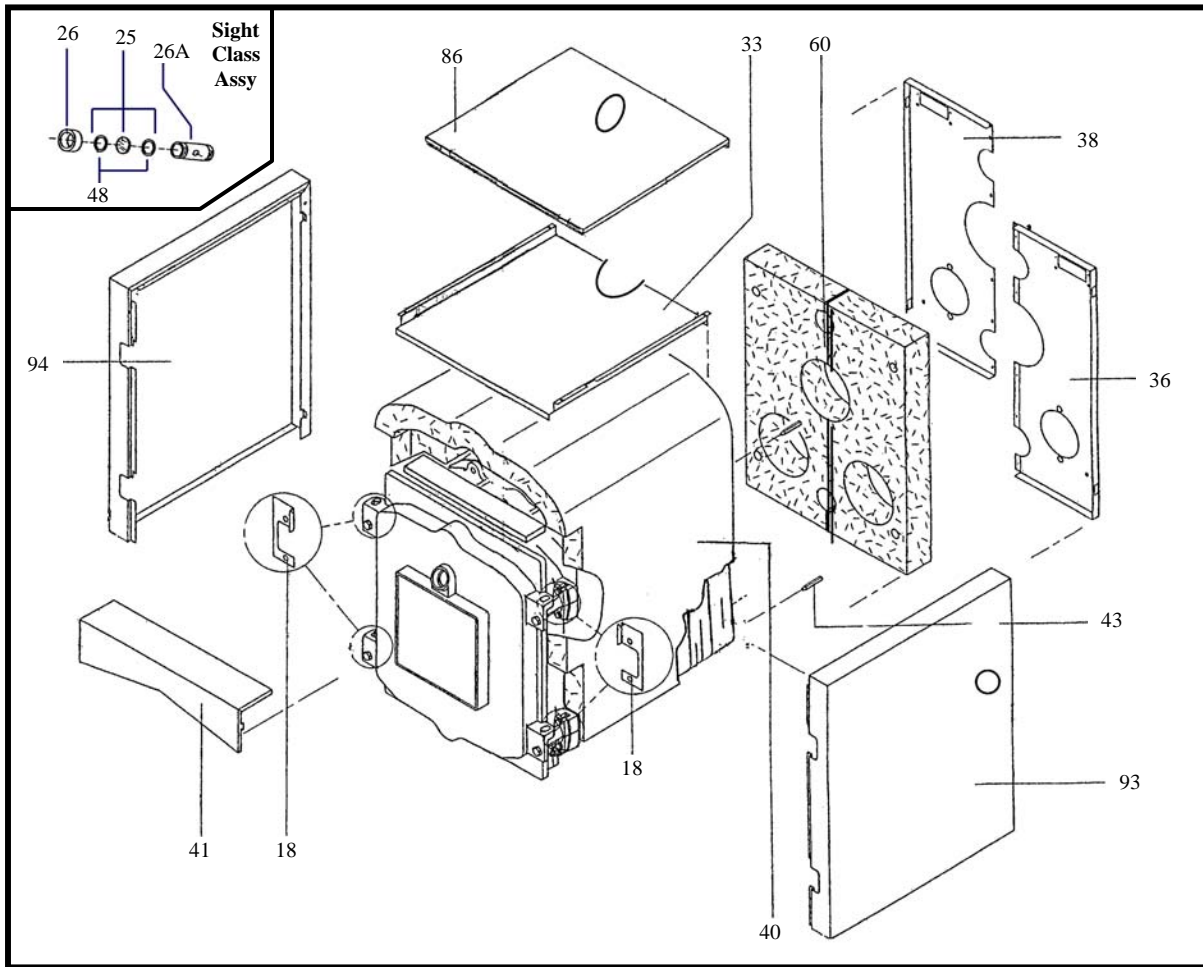

Figure 31. OWB-35 and OWB-50 Assembly Detail
- 1) 120 Volt Wiring—The boiler should be provided with its own 20A branch circuit with fused disconnect. All 120 volt connections are made inside the L8148A aquastat relay as follows (also see Fig. 31 or 32):